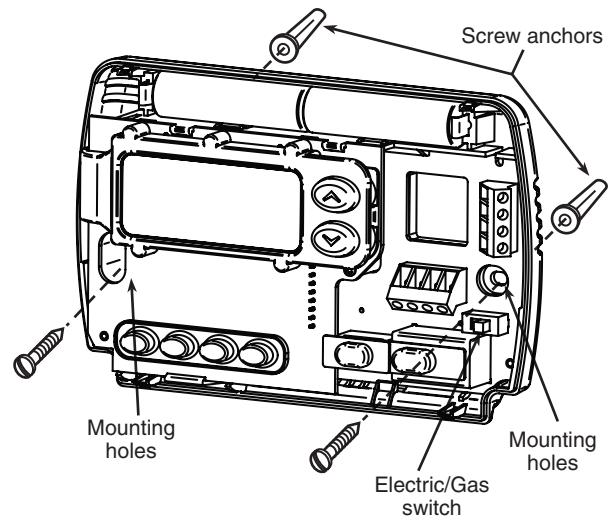

Figure 1. Thermostat Base
This thermostat is configured from the factory to operate a heat/cool, fossil fuel (gas, oil, etc.), forced air system. It is configured correctly for any system that DOES NOT require the thermostat to energize the fan on a call for heat. If your system is an electric heat or heat-pump system that **REQUIRES** the thermostat to turn on the fan on a call for heat, locate the **ELECTRIC/GAS switch** on the back of the thermostat (see fig. 1) and switch it to the **ELECTRIC** position. This will allow the thermostat to energize the fan immediately on a call for heat. If you are unsure if the heating/cooling system requires the thermostat to control the fan, contact a qualified heating and air conditioning service person.
5. Fasten base loosely to wall, as shown in fig. 1, using two mounting screws. Place a level against bottom of base, adjust until level, and then tighten screws. (Leveling is for appearance only and will not affect thermostat operation.) If you are using existing mounting holes, or if holes drilled are too large and do not allow you to tighten base snugly, use plastic screw anchors to secure subbase.
If “BATT” or “CHANGE  ” is displayed, the batteries are low and should be replaced with fresh “AA” Energizer® alkaline batteries. To replace batteries, install the batteries along the top of the base (see Fig. 1). The batteries must be installed with the positive (+) end to the left.